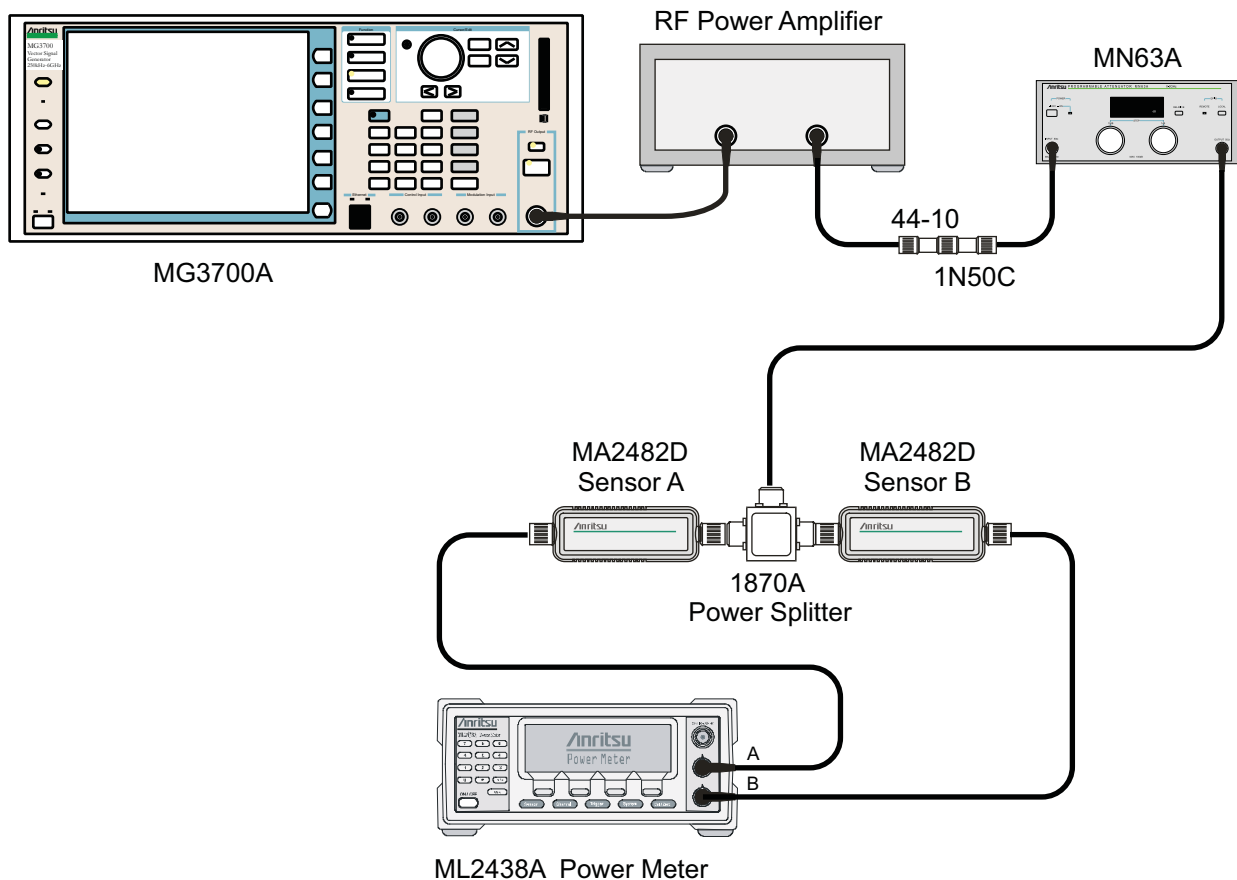

Figure 5-4. ISDB-T SFN Level Accuracy and 1 dB Compression Level Pre-test Setup
3. Connect the MG3700A Signal Generator, Power Amplifier with N(f)-BNC(m) adapters, RF Limiter, MN63A Programmable Attenuator, Power Divider, Power Meter and Power Sensors as shown in Figure 5-4.
50. Turn off the power amplifier, disconnect the power splitter from the MT821xE, re-connect Sensor A to the power splitter as shown in Figure 5-4 on page 5-19.
4. Connect the MG3700A Signal Generator, Power Amplifier with N(f)-BNC(m) adapters, RF Limiter, MN63A Programmable Attenuator, Power Divider, Power Meter and Power Sensors as shown in Figure 5-4 on page 5-19.